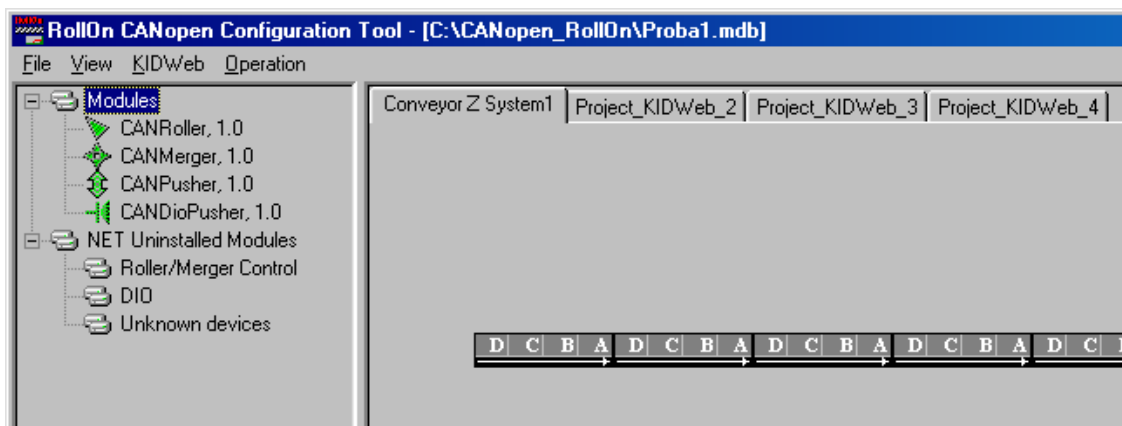

Fig. 4.33
- Click **OK** button – the new name appears as shown in Fig. 4.33.